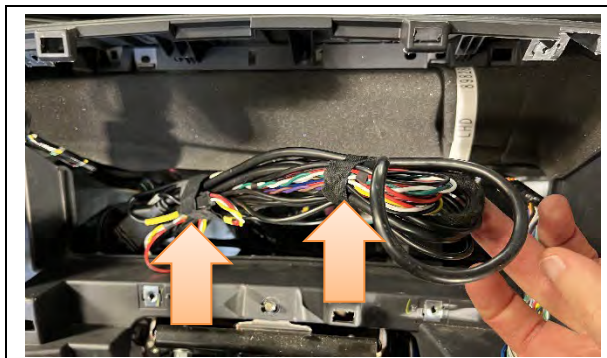

Figure 20
20. Unwrap and discard the tape around the harnesses and separate the camera cable from the other wires. (See Figure 20.)